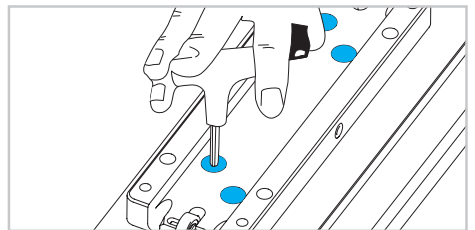

Fig. 7
- 7) Remove the top carriage in order to have access to the inner part. Untighten the screws and lift the part which has been released (Fig.7).